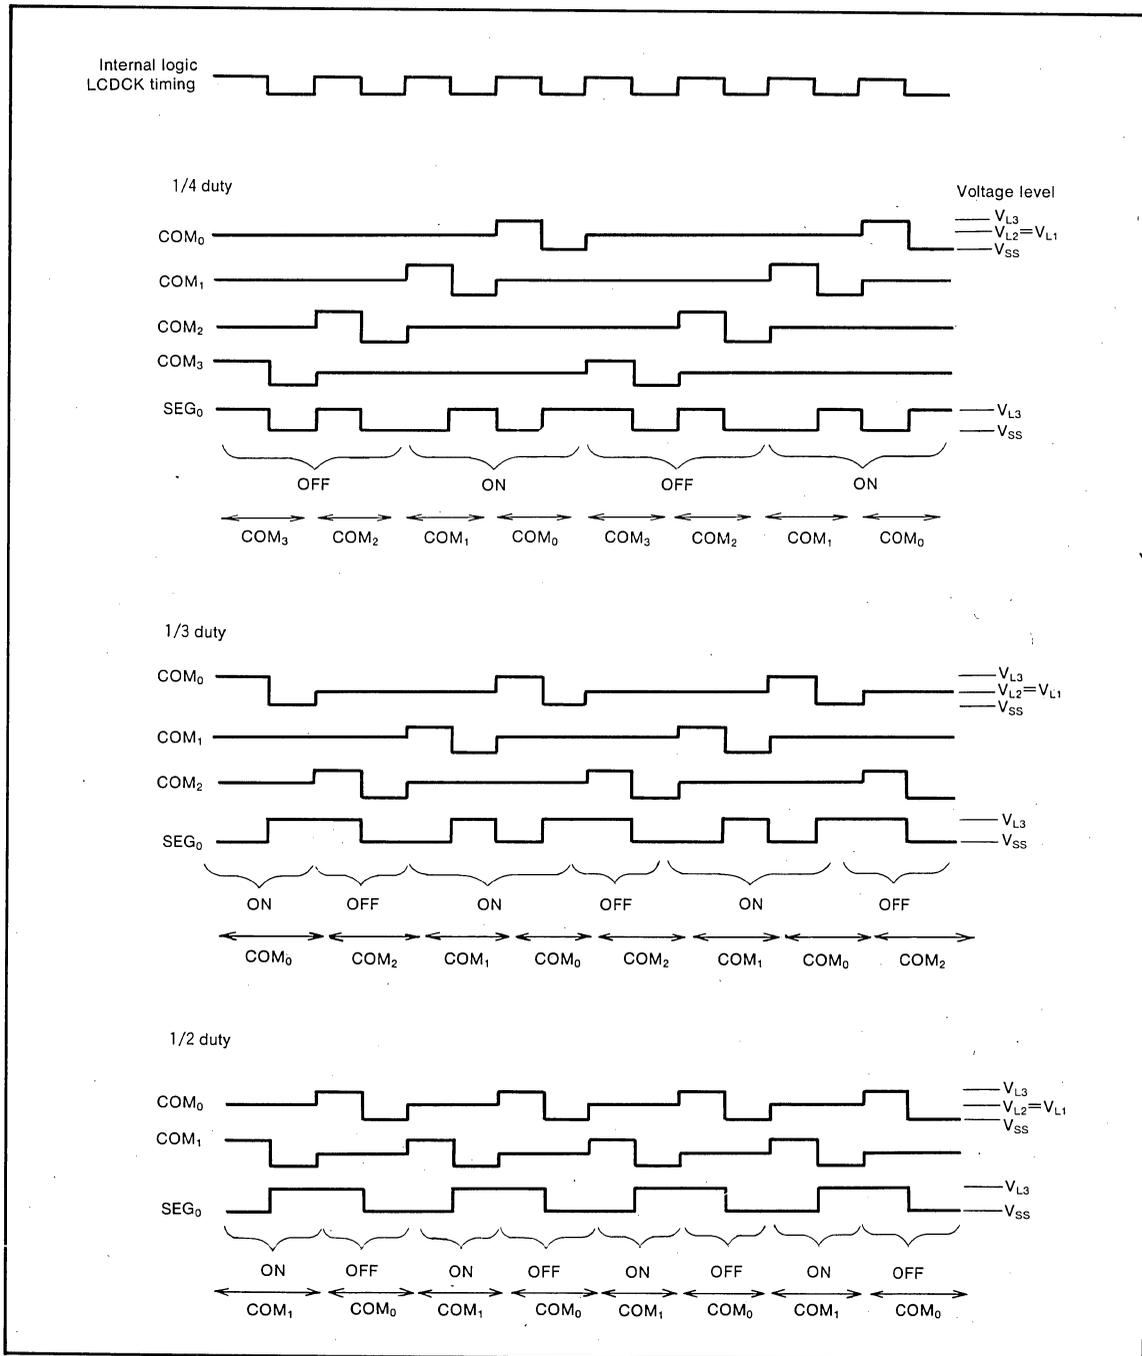
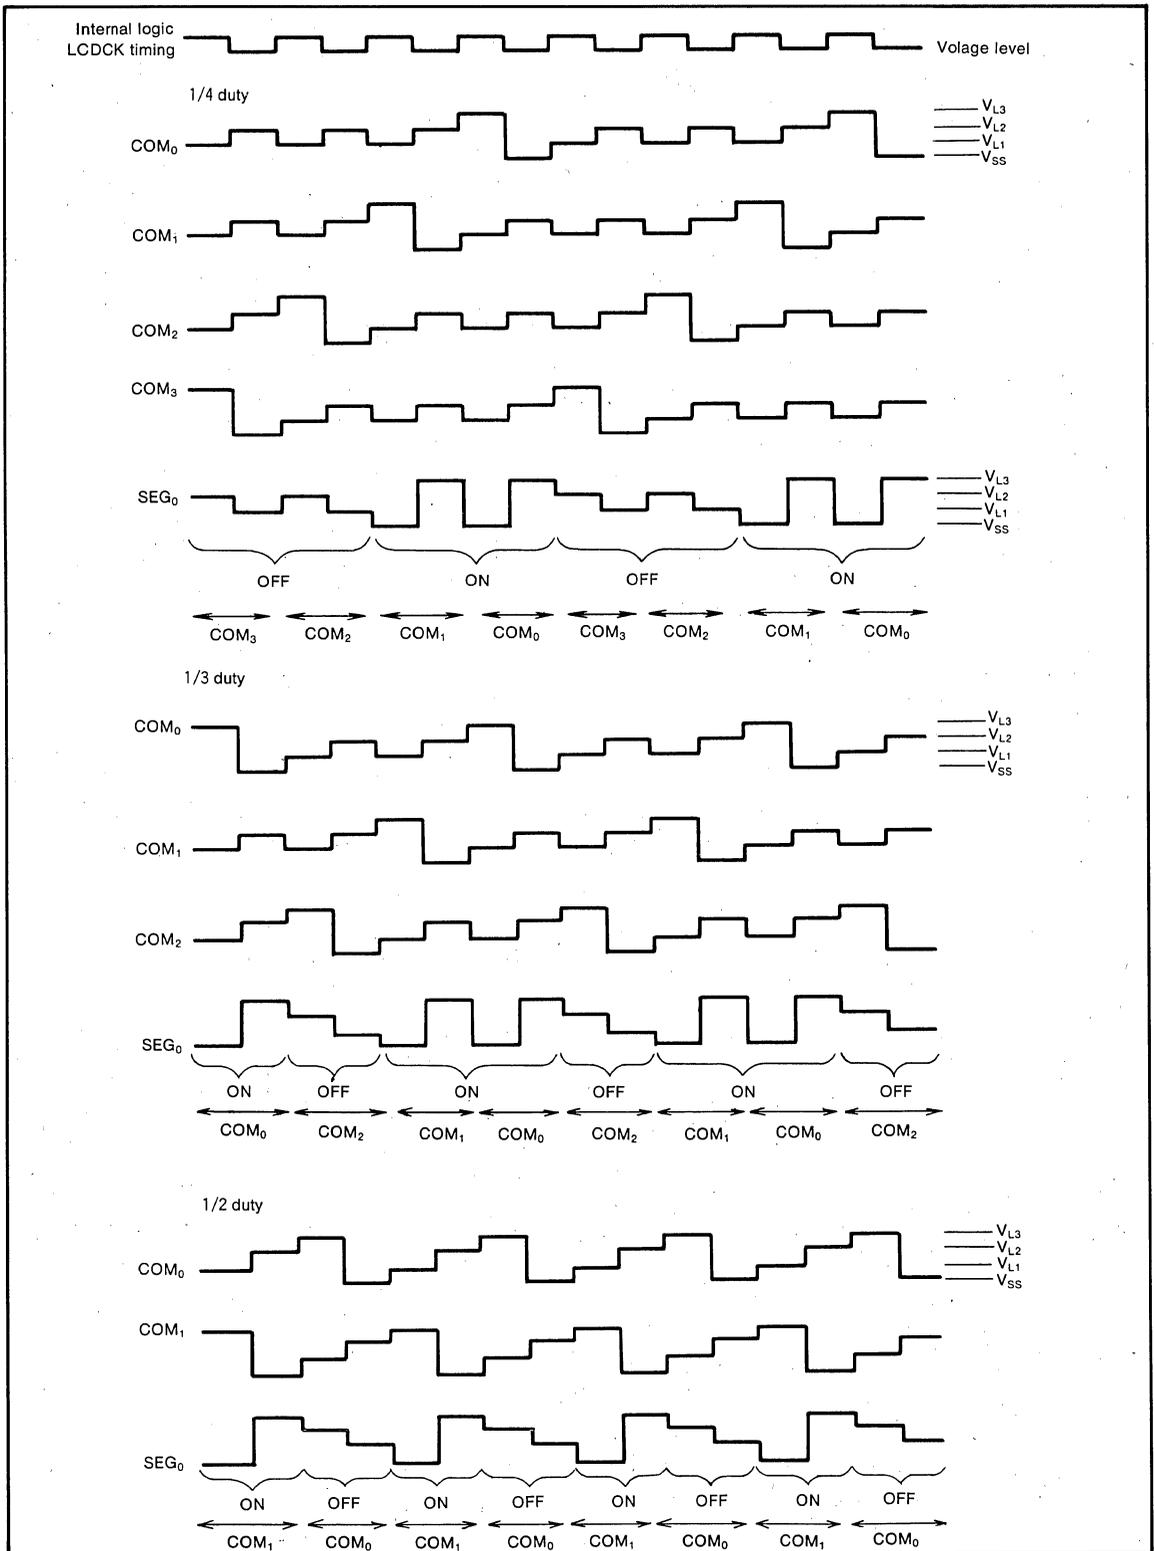

Fig.16 LCD drive waveform (at 1/2 bias)
Fig.17 LCD drive waveform (at 1/3 bias)
Address 00D016 ~ 00DF16 is the designated RAM for the LCD display. When 1s' are written to these addresses, the corresponding segments of the LCD display panel are turned on. A map of the LCD display RAM is shown in Figure 13. The ON/OFF function for the LCD controller is controlled by bit 3 of the LCD mode register (LM3). When this bit is "1" all the segments of the LCD are turned on. When this bit is "0" all the segments are turned off. An example circuit for each bias is shown in Figure 14 Figure 16 and Figure 17 describes the LCD driver waveforms for each bias and duty cycle.
- 2 : The voltage of VL1, and VL2 are switched as following Fig. 16 automatically by bit 2 of LCD mode register.